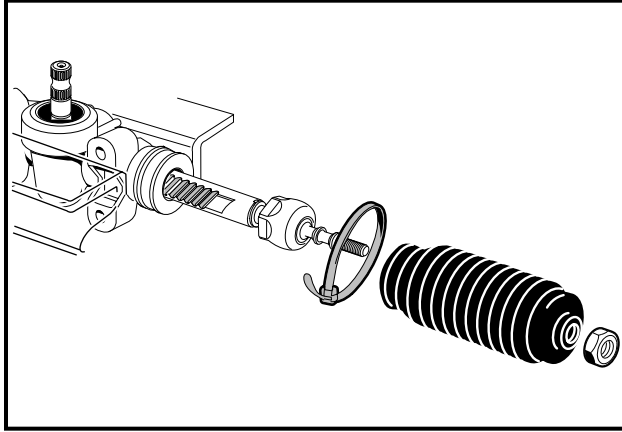

Figure 7-11 Dust Bellows Clamp
3. Remove both bellows clamps (metal clamps or plastic wire ties) (**Figure 7-11, Page 7-8**).